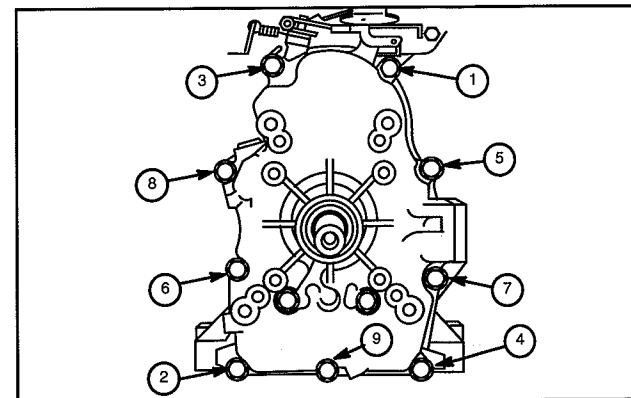

Fig. 14 – Torque Crankcase Cover
- a. Torque screws in sequence shown to 17.0 Nm (150 in. lbs.), Fig. 14.